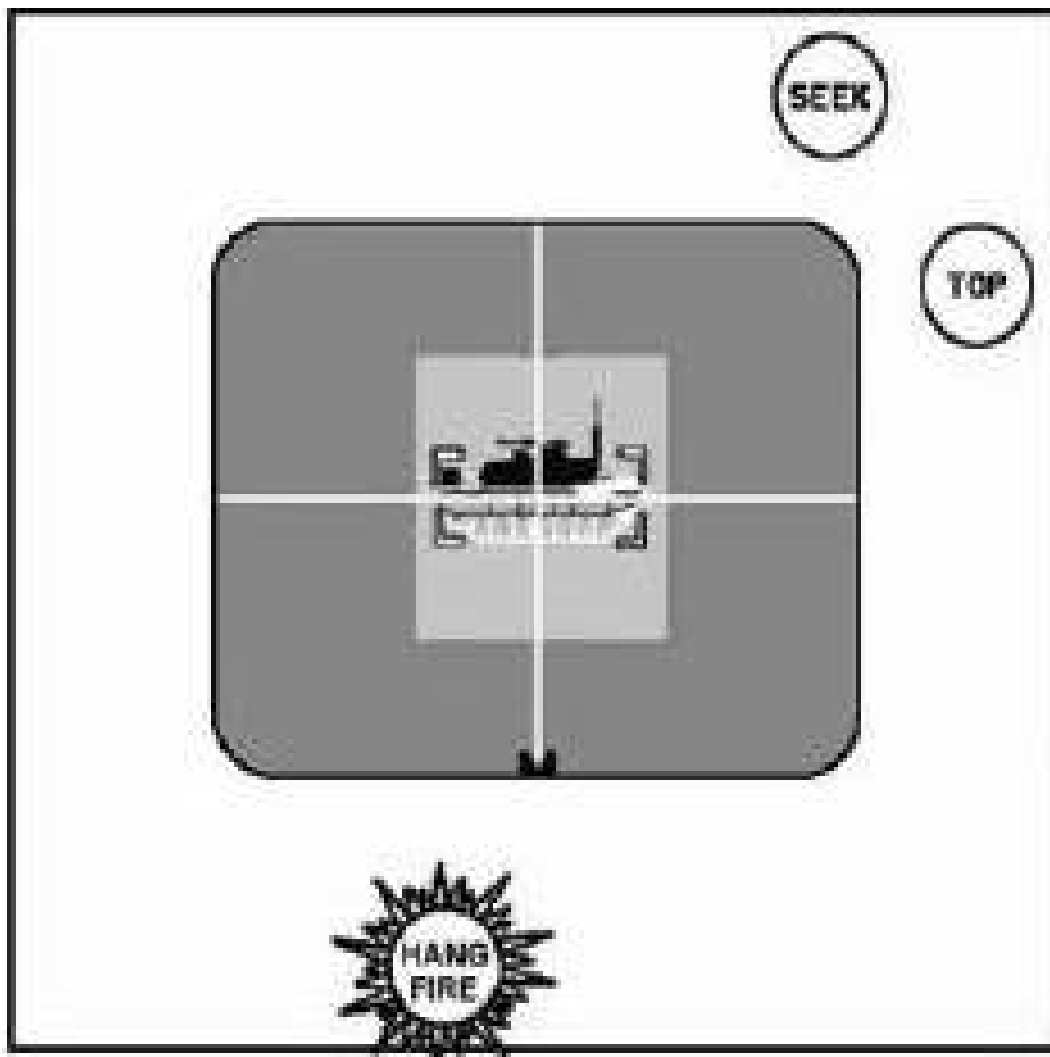

Figure 2. HANGFIRE indicator.
2. React to Hangfire (Figure 2).